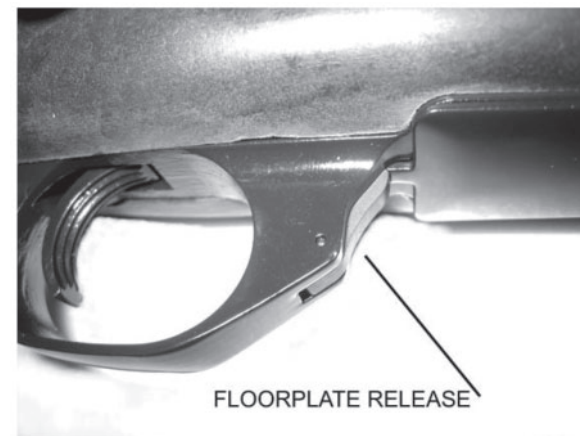

Fig. 5
4. To unload the magazine, open the floor plate by depressing the floor plate release. (Fig. 5). The floor plate will swing out, allowing any cartridges in the magazine to drop free. Do not allow the cartridges to fall to the ground as they may be damaged or become dirty, making loading and chambering more difficult. Subsequent loading of a damaged or dirty cartridge may cause a live round to become jammed in the chamber of the firearm resulting in an unsafe condition.